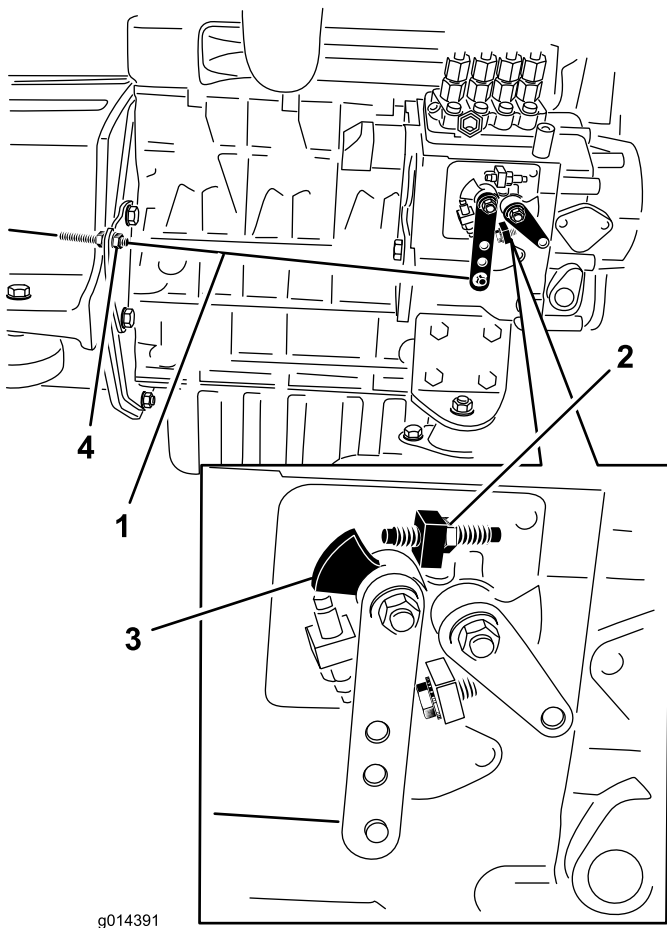

Figure 37
2. Check the position of the speed control lever on the engine fuel injection pump. The speed control lever should be contacting the high speed screw when the throttle control lever is in the FAST (detent) position (Figure 37).
3. If necessary, the position of the throttle control cable jam nuts can be adjusted until speed control lever contacts high speed screw when throttle control lever is at FAST (detent) position (Figure 37). **Do not adjust the high speed screw on the speed control lever.**